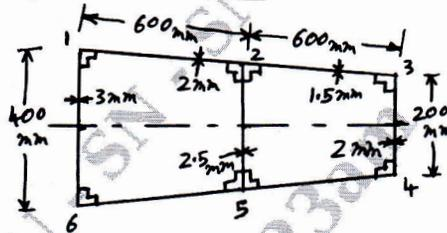

Fig.Q4(b)
b. Fig.Q4(b) shows Two-cell box type wing section with vertical spars connected to the wing skin through angle sections having cross sectional area of 300 mm^2 . Idealize the section into direct stress carrying booms and shear stress only carrying panels suitable for resisting bending moments in virtual plane.